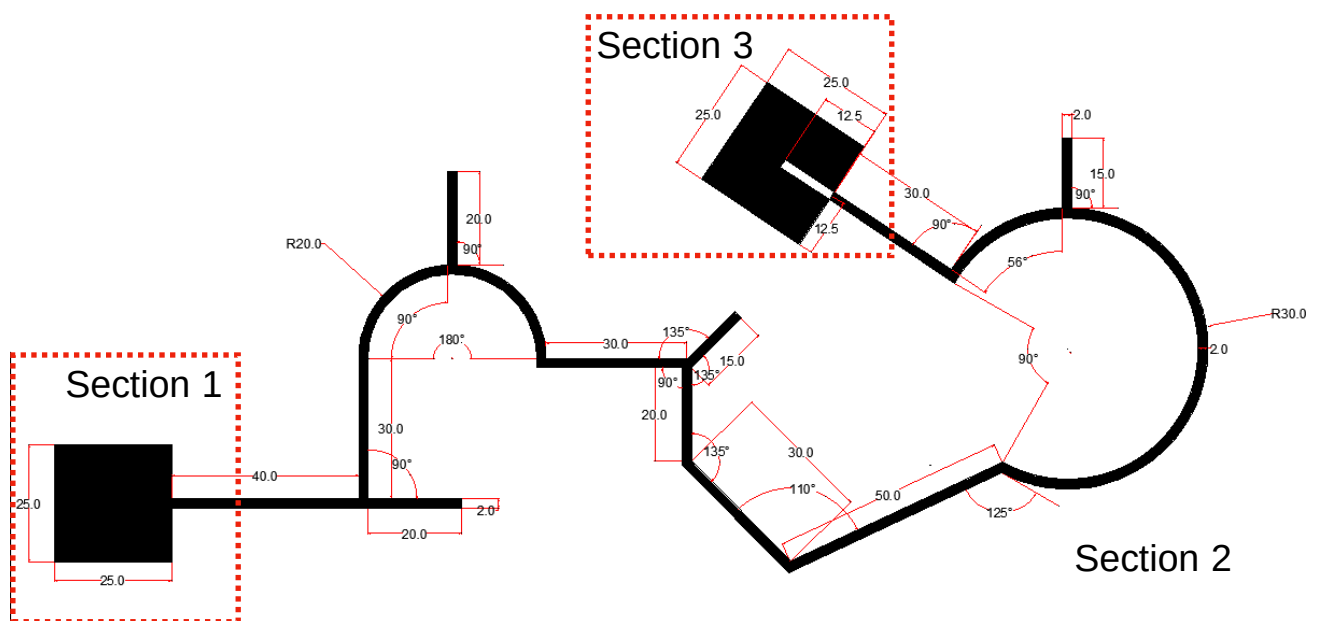

FIGURE 3: LEVEL 1 PLAYING FIELD (ALL MEASUREMENTS ARE IN CENTIMETERS)
- Participants must **construct the track** according to the given dimensions (as shown in Figure 3).